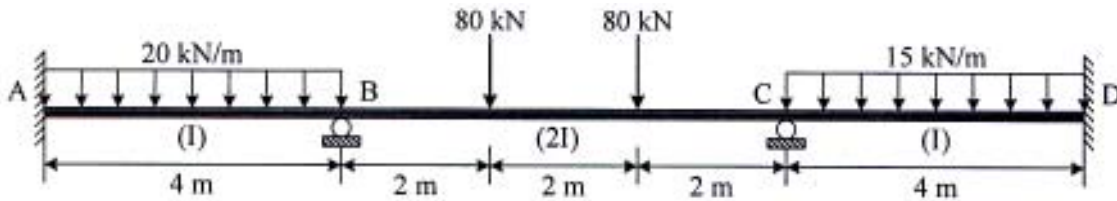

Fig. 8
8. Analyse the continuous beam loaded and supported as shown in Fig. 8 by moment distribution method. 18